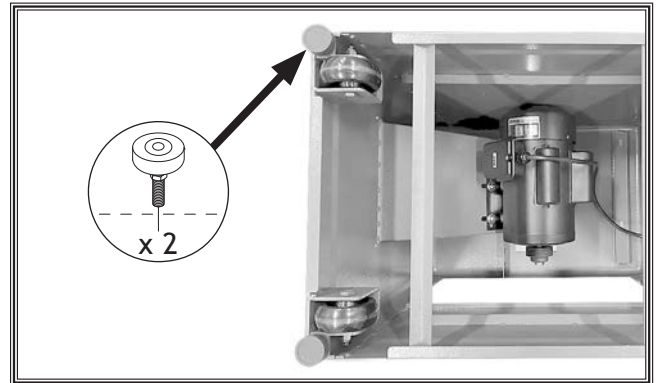

Figure 3. Adjustable feet installed on stand.
4. Thread (1) M8-1.25 hex nut on each M8-1.25 adjustable foot and fully tighten.
5. Install (2) M8-1.25 adjustable feet in mounting holes on bottom of stand (see **Figure 3**).